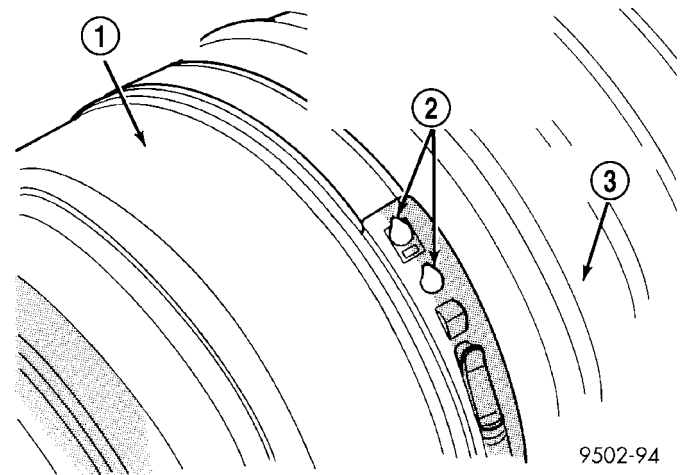

Fig. 25 Sealing Boot Clamp Correctly Installed
(2) Squeeze tool together until top band of clamp is latched behind the two tabs on lower band of clamp (Fig. 25).